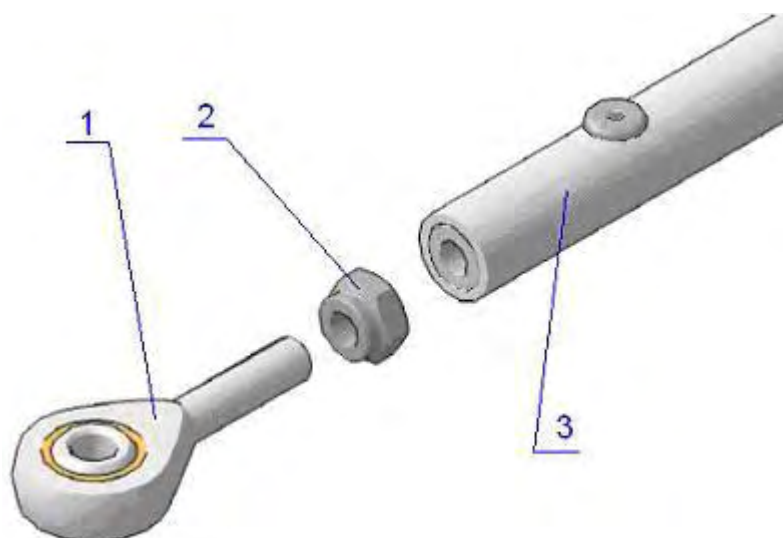

Fig. 6
Connect the rod (3) (KA6020030R) with the bearing (1) (C9997006A, Rod end bearing, ext. thread GA6), that is fixed to the aileron root rib as shown (Fig. 6).